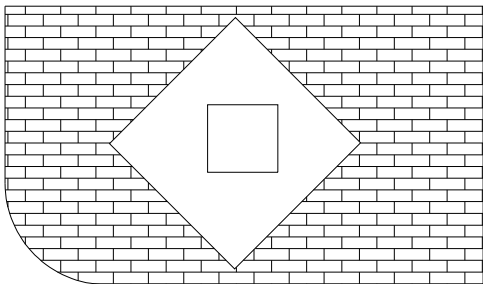

Figure 15.2: Hatching using the Outermost hatching type
- Outermost – toggle this on to hatch only the first boundary (see Figure 15.2).